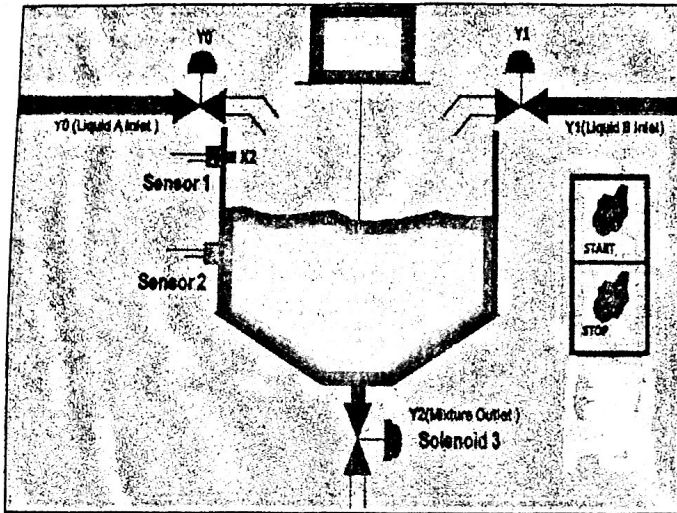
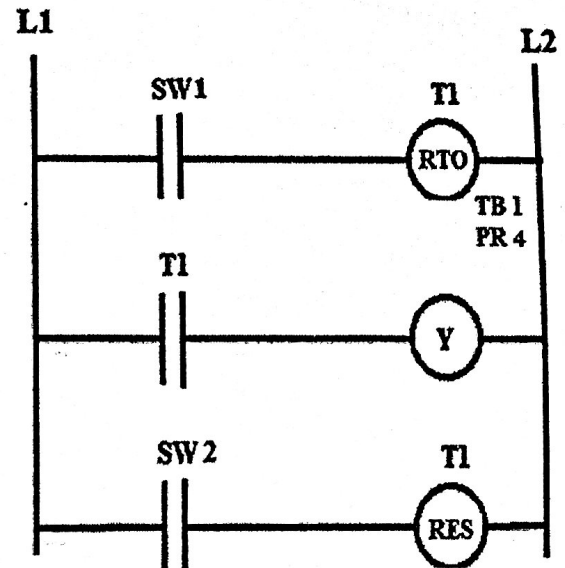
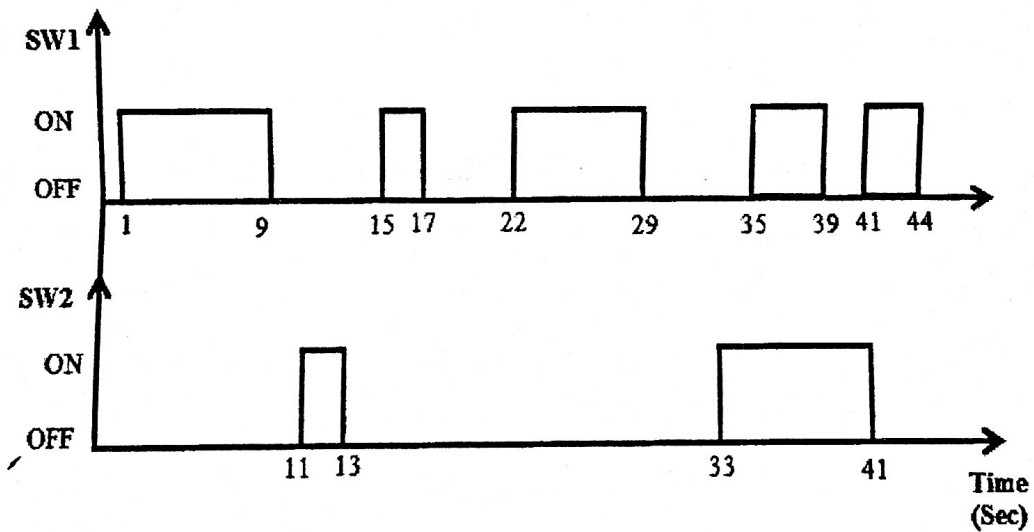

Fig.1
Fig.2
Fig.3
- a) Draw the suitable ladder diagram for a liquid filling and mixing system which mixes two liquids A and B as shown in Fig.1. These processes are sequentially done as in the following: (6 Marks)
- 3- The motor (M) starts the mixing process and the time for this process is 40 Sec.
- b) For the ladder diagram shown in Fig.2, draw the timing diagram to illustrate the states of T1, Accumulated time (AT) and Y. Consider the states of SW1 and SW2 as shown in Fig.3. (4 Marks)